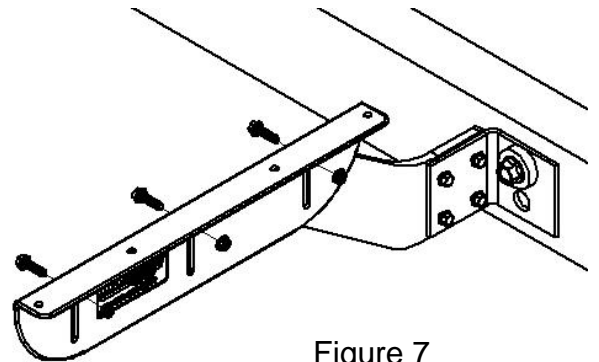

Figure 7
- In these cases use the plastic angle (PB5071) to connect the fender to the center bracket assembly (Figure 7).